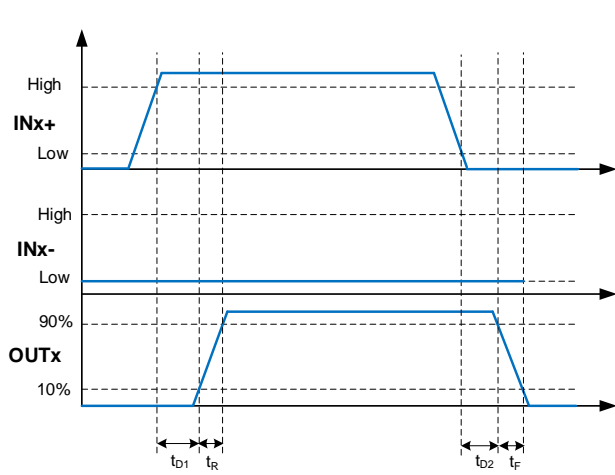
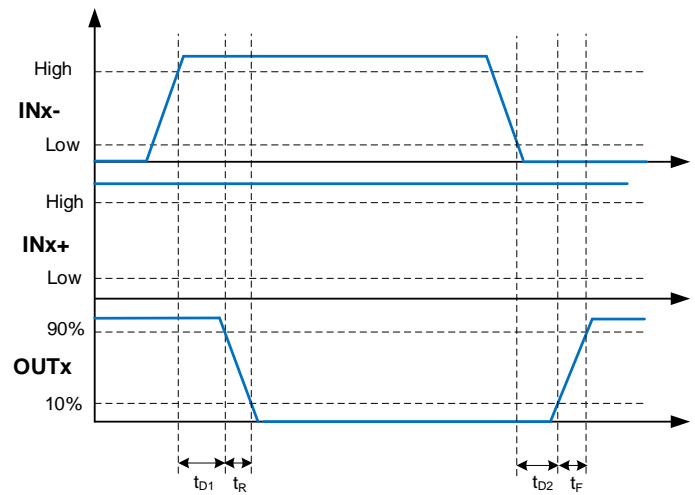

Figure 3. Non-Inverting Input Driver Operation
Figure 4. Inverting Input Driver Operation
1) See timing diagrams in Figure 3 and Figure 4